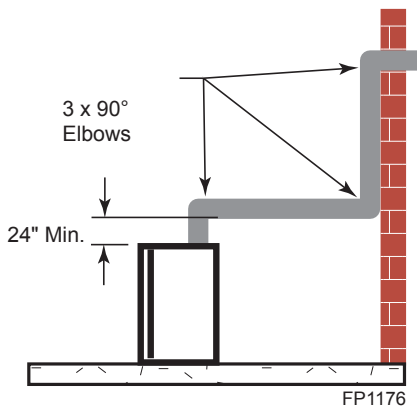

Figure 14 -
- The maximum number of 90° elbows per side wall installation is three (3). *Figure 14*
- If a 90° elbow is used in the horizontal vent run (level height maintained) the horizontal vent length is reduced by 36". *Figures 14 and 15*. This does not apply if the 90° elbows are used to increase or redirect a vertical rise. *Figure 16*